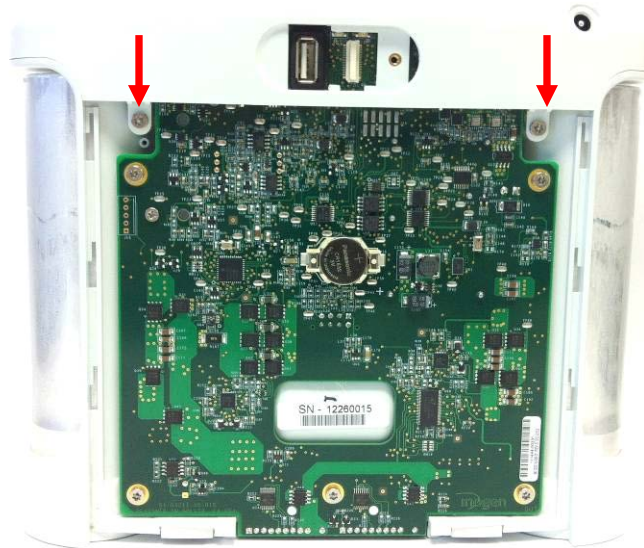

Figure 5: Location of rear screws
1. With the side housing removed, locate and remove the four screws that connect the user interface panel to the chassis (Figures 5 and 6).